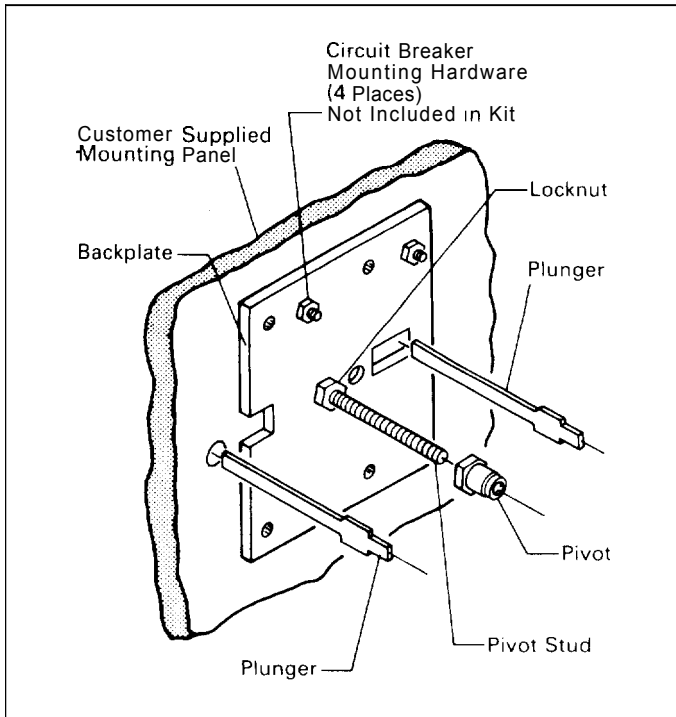

Fig. 2-5. Plungers Positioned through Backplate into 3-Pole Circuit Breakers
- 2-5. Screw walking beam pivot onto pivot stud until pivot rests against nut. (See Fig. 2-5.)
- 2-6. Slide both plungers through walking beam backplate and mounting panel into circuit breakers. (See Fig. 2-5.)